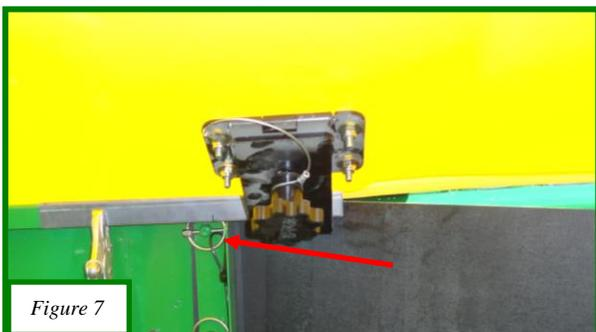

Figure 7
Place the side extension channel on the back of the right extension. Place the channel on so the cut out is aligned with the angle iron that is securing the rubber corner in place. (See Figure 7 & 8) Secure to the extension with (2) 1/4"x1" lag screws.
Install the strap handles (5) onto the inside of the hoods with 1/4" x 3/4" truss head bolts (6), 1/4" flat washers, 1/4" nylon lock nuts. Fold the ends of the straps over and slide the bolt through both holes. Install a cable and plastic knob on the hoods without a decal/writing on it. On the inside lip of the hood, drill close to the same area as shown in the Figure 7 & 12. Secure it with a 1/4" x 3/4" bolt, washer and nylon lock nut.